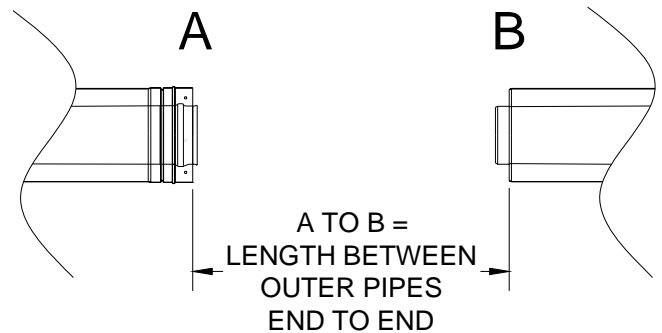

Fig. 19A - DGV - Measuring required Length
1. Measure the distance of the length required, taking the measurement from the end of one of the outer jackets to the beginning of the other outer jacket on the section to connect to, (A to B on diagram of Figure 19A).